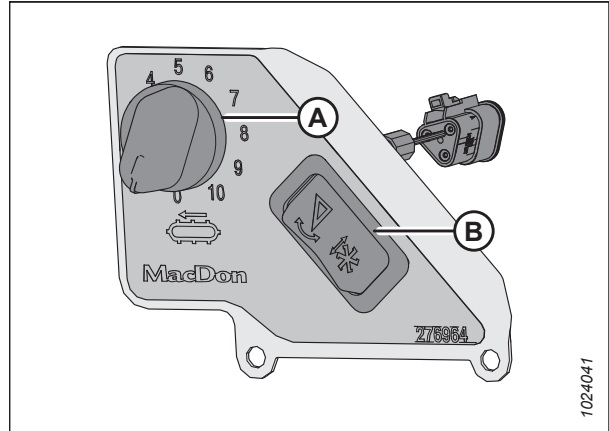

Figure 3.185: In-Cab Side Draper Speed Control
Switch (B) in Figure 3.185, page 162 allows the operator to switch between the header tilt and reel fore-aft controls. For instructions on the controls, refer to Adjusting Header Angle from Combine, page 158.